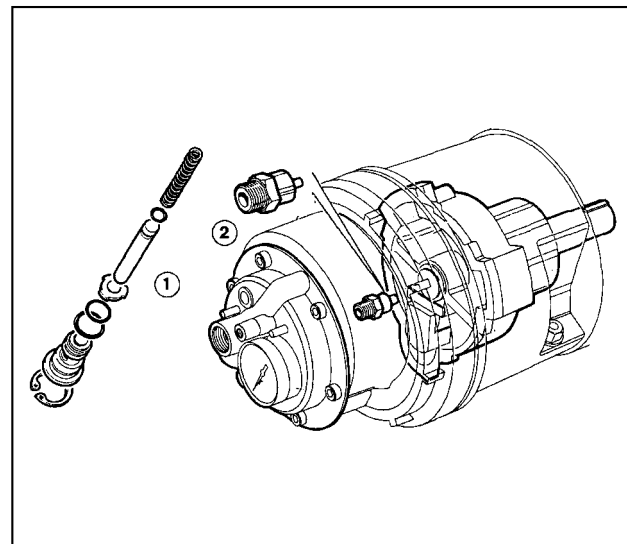

Figure 5.2 - Minimum Pressure Valve and Safety Valve Lift Pressure
C - Minimum Pressure Valve ① (Fig. 5.2)
D - Safety Valve Lift Pressure ② (Fig. 5.2) (Where fitted)